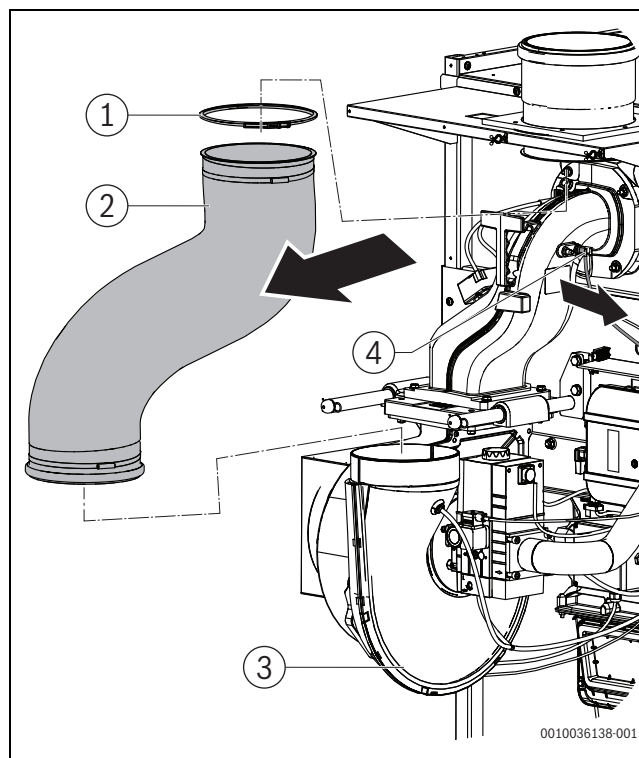

Fig. 54 Undoing the supply air hose
- ▶ Undo toggle clip (→Fig. 54, [1] at the ) top of the supply air collector.
- ▶ Remove the supply air hose (→Fig. 54, [2] ) from the upper inlet duct.
- ▶ Undo the temperature switch / burner controller connecting cable on the mixture manifold (→Fig. 54).